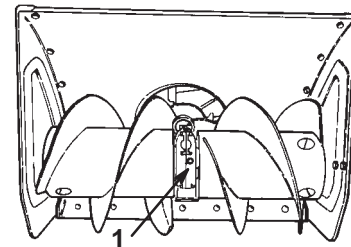

Figure 25
4. Clean the area around the pipe plug (Fig. 25).
5. Remove the pipe plug from the gearbox (Fig. 25).